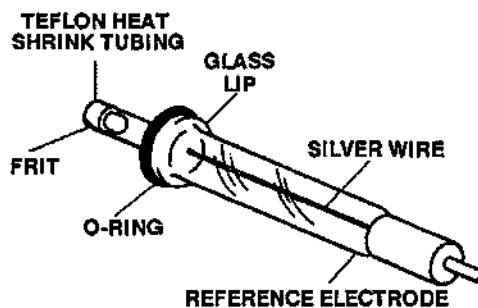

Figure 6-3 Reference Electrode
3. Pull or cut the old frit from the glass electrode body (Figure 6-3).
To renew the reference electrode (Figure 6-3):